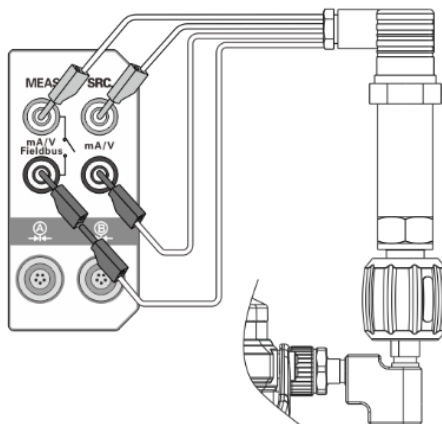

Figure 29 Calibration of the pressure transducer
- ◆ Connect the calibrator and the pressure transducer (providing excitation current or excitation voltage) as shown in Figure 29.